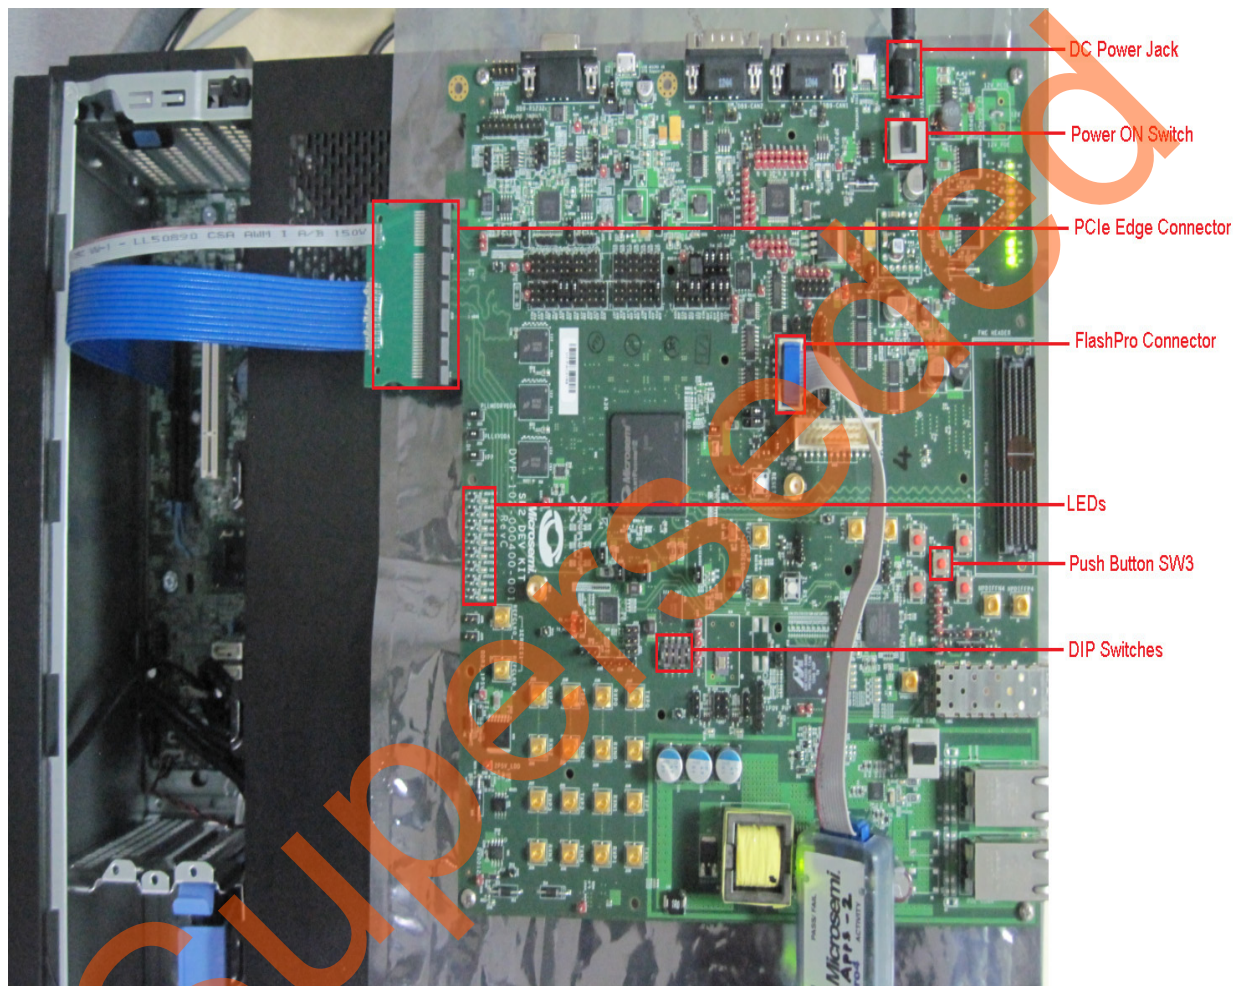

Figure 6 • SmartFusion2 Development Kit Setup
3. Figure 6 shows the board setup for the Host PC in which SmartFusion2 Development Kit is connected to the Host PC PCIe slot.